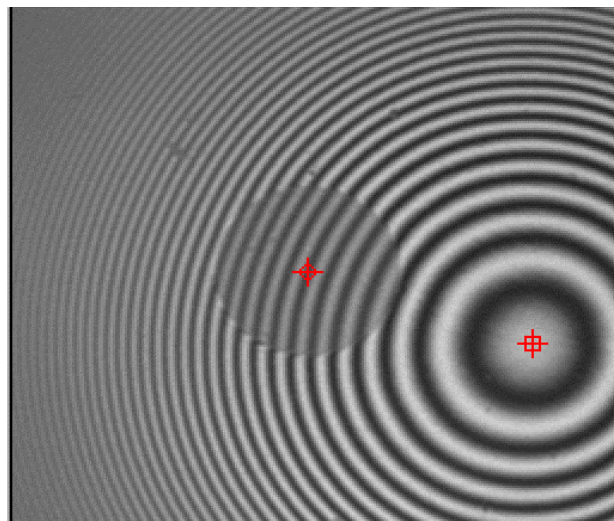

Figure 9
2. Switch to inspection mode and adjust the focus micrometer until the image is in focus. Adjust the intensity knob to achieve the sharpest looking image on the monitor. Switch to interferometric mode and optimize the image. On a perfectly angled and polished connector, the circular fringes will be centered around the fiber resembling a standard PC connector. Should the apex offset be off to the left or right of the center of the fiber, this indicates that the angle of the polish is not exactly 8 degrees. If the apex offset is vertically offset from the center of the fiber, this indicates an error in the relationship of the ferrule's polish with respect to the key of the connector. This is shown in figure 9 below. For clarity we have drawn a circle to represent the center of the fiber and a square to represent the apex offset. As the apex lies to the right of the center of the fiber then the angle is more than 8 degrees.